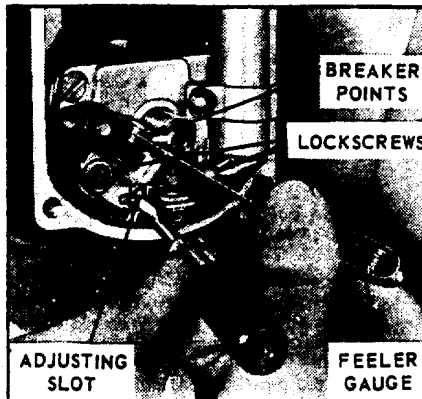

Fig. 10
**BREAKER POINT ADJUSTMENT, Fig. 10**